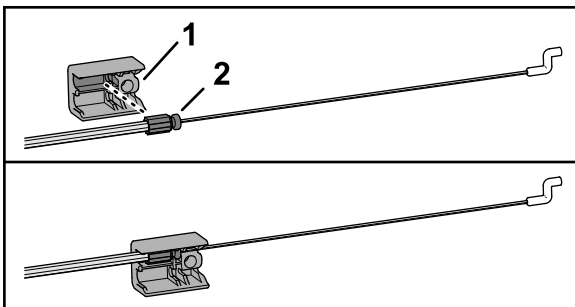

Figure 9
1. Insert the fitting at the end of the cable sheath into the upper socket of the handlebar fitting (Figure 9).